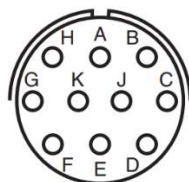

Figure 25 - D-sensor input
D-sensor input (Figure 16 (1)) is a standard 10 poles military spec plug (Figure 25).
Table 4 - Signals position on the connector of Figure 25